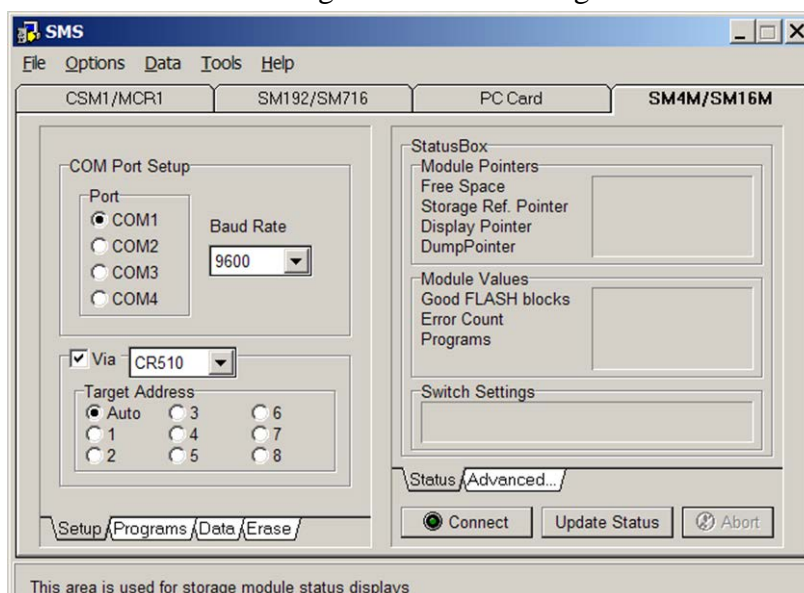

Figure 15: The SMS program Setup window configured for downloading from the SM4M Memory Module on an Ecology Campbell Scientific gaging station.
- 6.3.2.5 Select "Auto" as the Target Address. See Figure 15 for correct “Setup”.